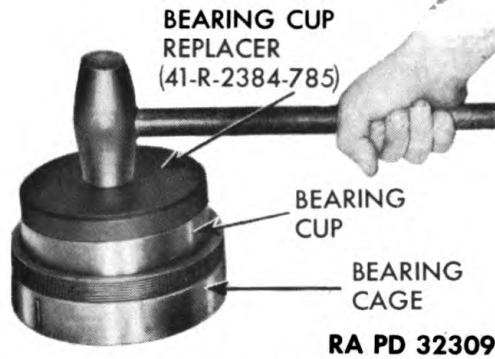

Figure 92 — Installing Differential Bearing Cup
(3) **STEERING BRAKE DRUM RIM AND FLANGE ASSEMBLY** (fig. 92). If the brake drum rim is smooth and shows only normal wear, it can be used again. If the rim is grooved and rough, it should be replaced. The manufacturing diameter limits of rim are 14.99 to 15.00 inches. Inspect steering drum rim flange bushing, and replace if it shows indications of wear. The manufacturing internal diameter limits of bushing are 3.375 to 3.377 inches. New bushing is installed by pressing out old bushing, and pressing in new bushing, chamfered end first, from the gear side, until flush with face of flange on opposite side. Drill three $\frac{1}{8}$ -inch holes through oil holes in gear. Machine bushing to above dimensions.
(5) Carefully inspect six external pinions, six internal pinions, two compensating gears, and the bevel drive gear (fig. 92). If abnormally worn, or if teeth are broken or chipped, replace defective gear or pinion together with all related or meshing gears or pinions. If bevel drive gear must be replaced, the bevel pinion in transmission must also be replaced, as they are furnished in a matched set to assure proper tooth contact (par. 8).